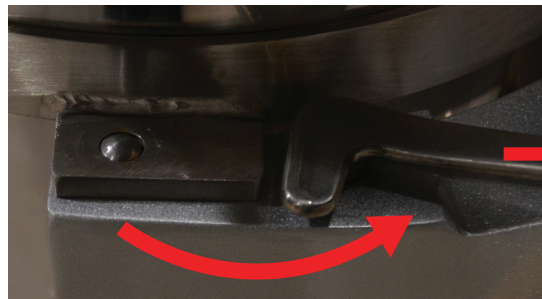

Fig.2
2. Once the bowl is seated properly, swing the locking levers into position. (Fig.2)